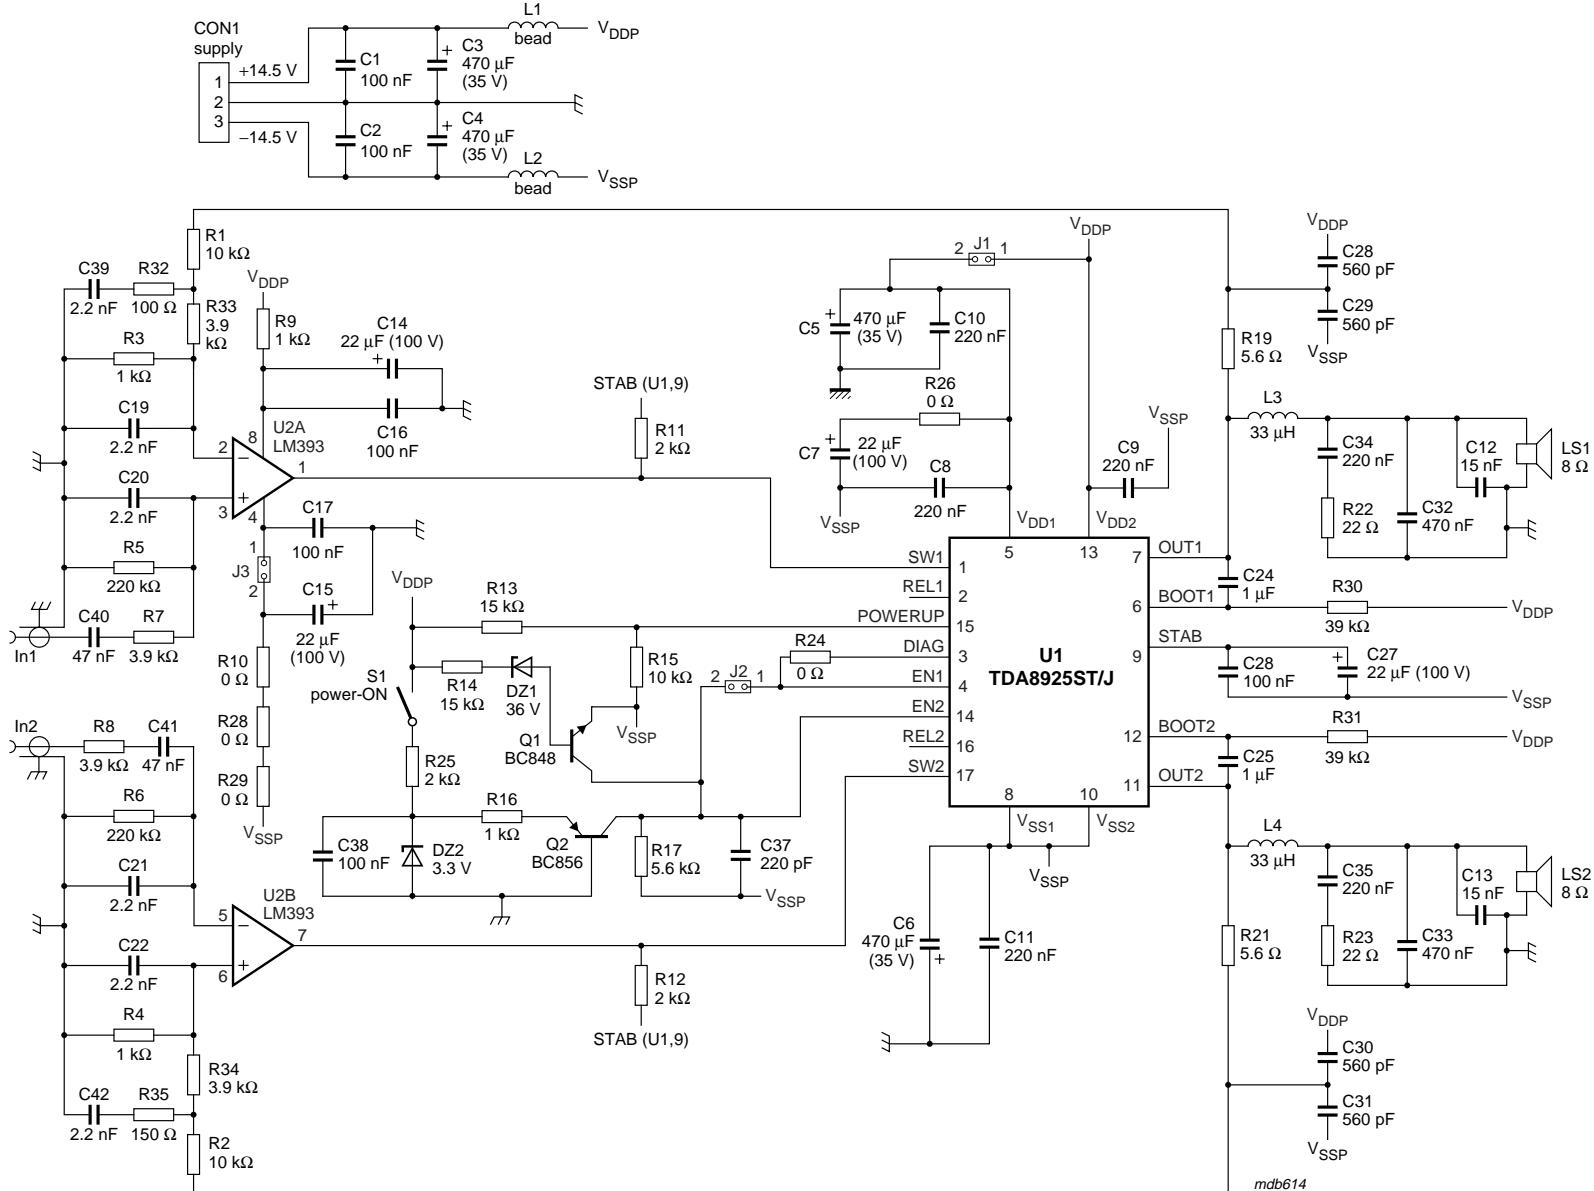
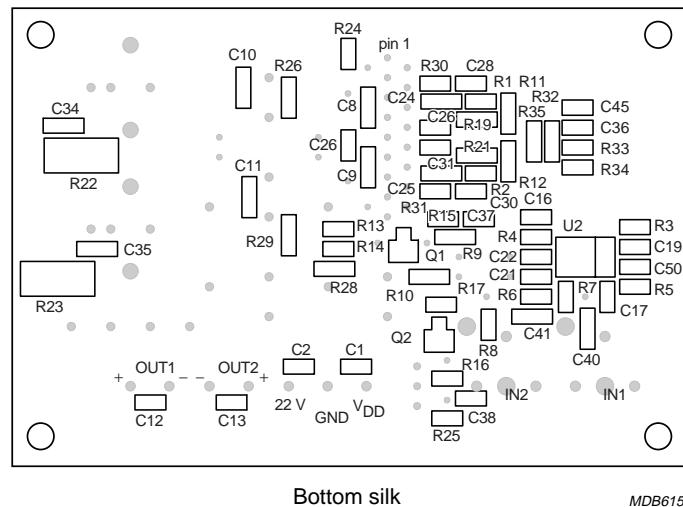

Fig.5 SE self oscillating class-D system application diagram for TDA8925.
Fig.6 Printed-circuit board (bottom silk) layout for TDA8925ST.
- $V_P = \pm 15 \text{ V}$; $R_L = 8 \Omega$; $f_i = 1 \text{ kHz}$; $f_{\text{osc}} = 310 \text{ kHz}$; $R_s = 0.1 \Omega$ (series resistance of filter coil); $T_{\text{amb}} = 25 \text{ }^{\circ}\text{C}$; measured in reference design (SE application) shown in Fig.5; unless otherwise specified.
- Total Harmonic Distortion (THD) is measured in a bandwidth of 22 Hz to 20 kHz (AES 17 brickwall filter). When distortion is measured using a low-order low-pass filter a significantly higher value will be found, due to the switching frequency outside the audio band. Measured using the typical application circuit, given in Fig.5.
For SE application the application diagram as shown in Fig.5 can be used.
The reference design for a self oscillating class-D system for the TDA8925 is shown in Fig.5. The Printed-Circuit Board (PCB) layout is shown in Figs 6, 7 and 8. The bill of materials is given in Section 15.5.1.